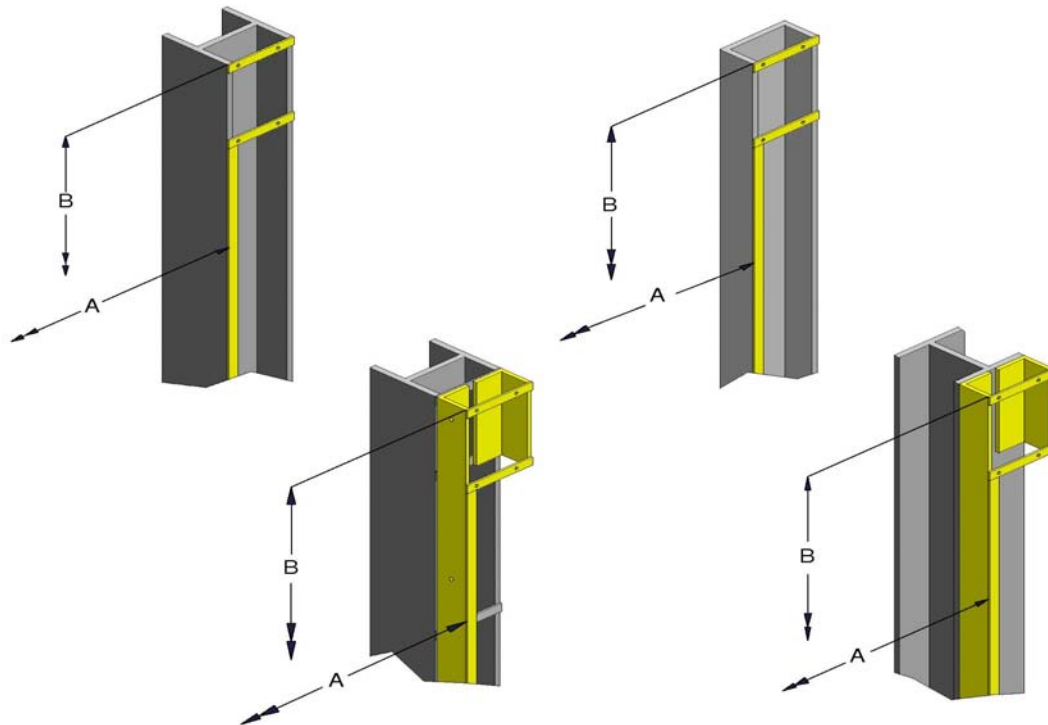

Figure 2
3. Figure 2 and 3a indicates the recommended layouts and size of tracking. Ensure tracking is securely fixed to the building and/or ground. It is important that the track is installed vertically, the two sections are parallel, and that the tops are level. If you require further guidance on suggested size of track then contact Head Office